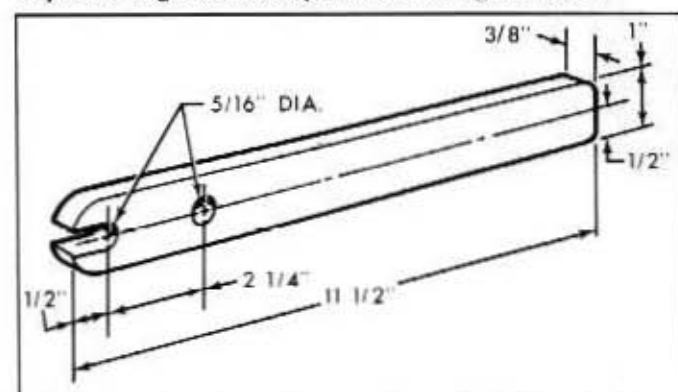

Fig. 13B-9—Torsion Rod Replacement Tool—(60C-8003)
1. With the luggage compartment door propped in the full open position, place the service tool on the wind-up end of the torsion rod. See figure 13B-8. This tool can be made locally from $\frac{3}{8}$ inch bar stock. See figure 13B-9.